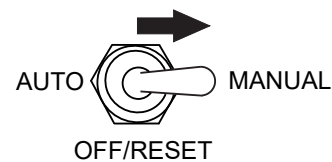

Figure 46. Auto Start/Stop Switch (Manual Position)
1. To start the engine, place the **Auto Start/Stop Switch** in the **MANUAL** position (Figure 46).